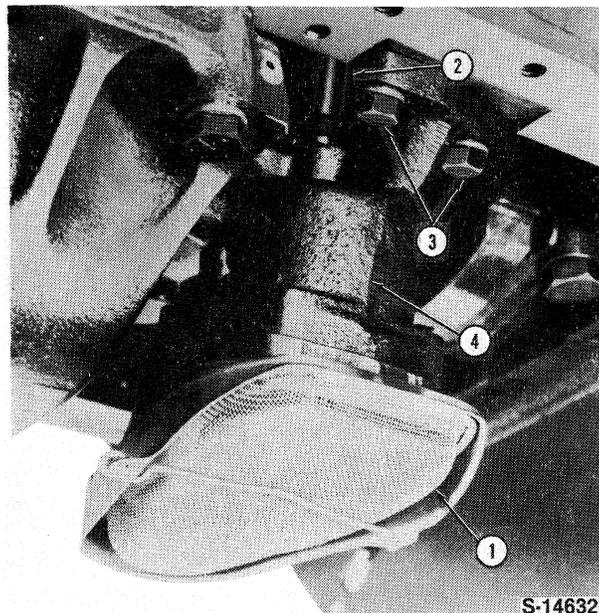

Figure 28
2. Remove the oil pump with the filter screen, Figure 28. Withdraw the intermediate shaft.